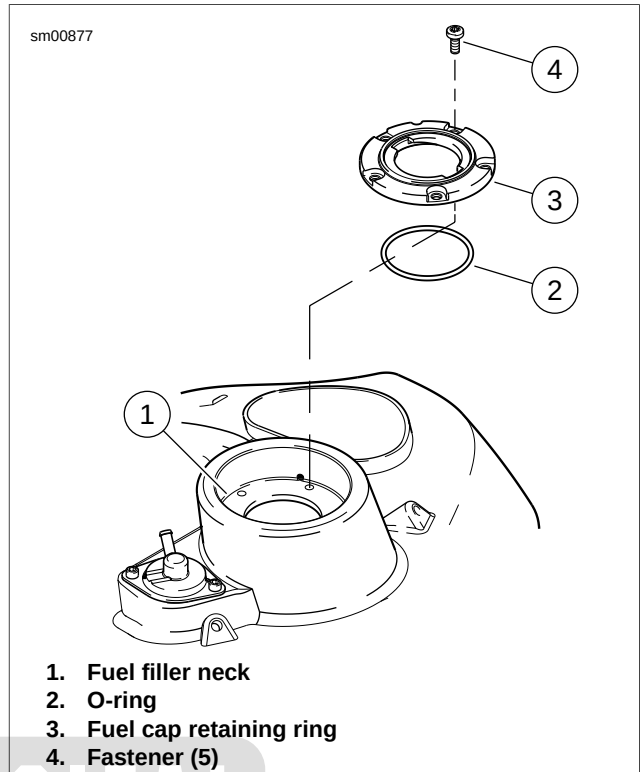

Figure 4-29. Fuel Cap Retaining Ring
3. See Figure 4-29. Remove fasteners (4) securing fuel cap retaining ring (3) to fuel filler neck (1).
4. Remove fuel cap retaining ring and o-ring (2). Discard o-ring.